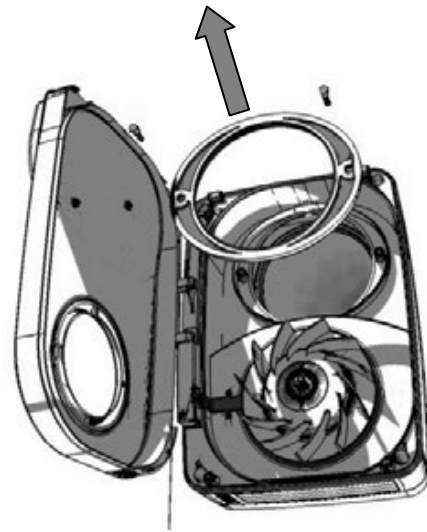

Fig.10
8) Remove screws and Heat Exchanger Retaining Clamp kit Fig 10. (Discard polybag)